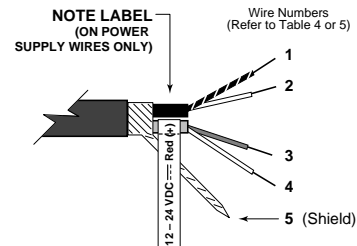

Figure 11: Wiring Configuration
**Sensor to Electronics Cable**—The sensor to electronics cable is a 1m (3 ft), 4-wire, PVC cable. One end is attached, at the factory, to the sensor head. The other end has two pairs of wires and a bare shield (ground) wire (see Figure 11).
Pay close attention to the wiring diagram in Figure 11, and match your sensor to the appropriate output type in Table 4 or 5. Wire accordingly.
**Wiring**—Wire the electronics cable using Figure 11 and Table 4 or 5 (for high temp cables) as a guide. **USE ONLY THE OUTPUT TYPE OF YOUR SENSOR. WIRING TO THE WRONG OUTPUT WILL DAMAGE THE SENSOR.** Note in Figure 11 that the numbers refer to the wire numbers in Table 4 or 5, which shows proper wiring connections based on insulation color coding.